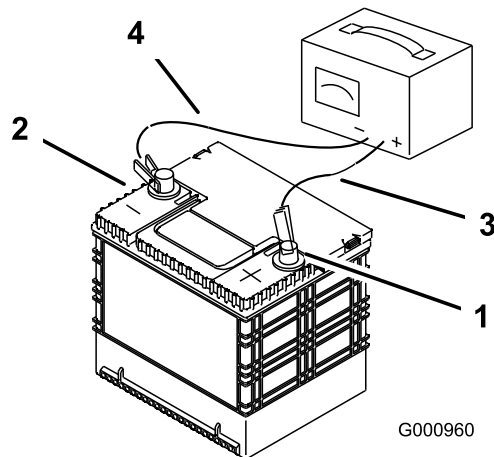

Figure 59
3. When the battery is fully charged, unplug the charger from the electrical outlet, then disconnect the charger leads from the battery posts (Figure 59).